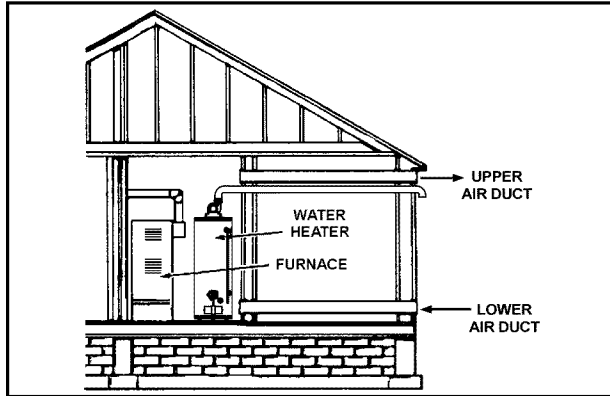

Figure 18
3. When communicating with the outdoors through horizontal ducts, each opening shall have a minimum free area of 1 square inch per 2,000 Btu/hr (11cm2/kW) of total input rating of all equipment in the enclosure (see Figure 18).
4. When ducts are used, they shall be of the same cross-sectional area as the free area of the openings to which they connect. The minimum short side dimension of rectangular air ducts shall not be less than 3" (76mm) (see Figure 18).